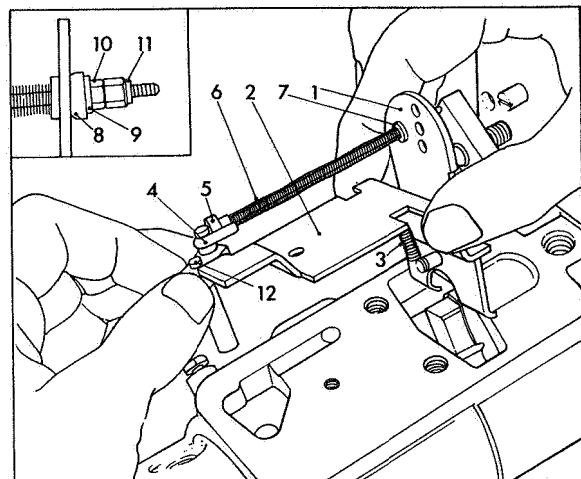

Fig 27 Assembling governor linkage
Assemble governor arm (1) Fig 27 to control bracket (2) and fit governor arm spring (3). Assemble spring linkage components onto the linkage hook (4) in the following order:— Spring retainer (5) large end first, long linkage spring (6) and linkage spring washer (7). Pass the linkage hook through the correct hole in the governor arm and continue assembling linkage pivot ball (8) linkage pivot ball washer (9), linkage nut (10) and linkage locking nut (11). Assemble metering valve (12) to the hook linkage as shown.